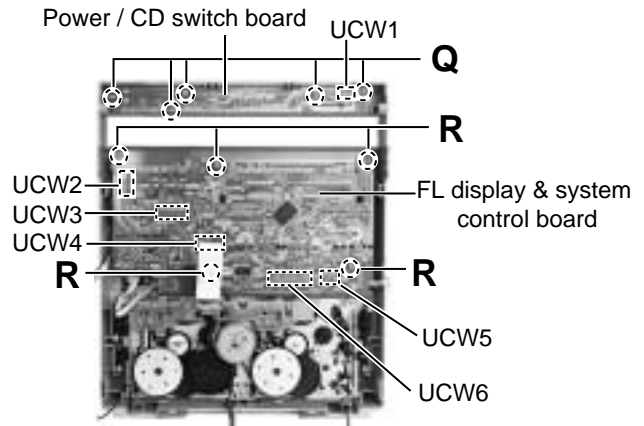

Fig.22
**■Removing the power / CD switch board (See Fig.22)**
**■Removing the FL display & system control board (See Fig.22)**